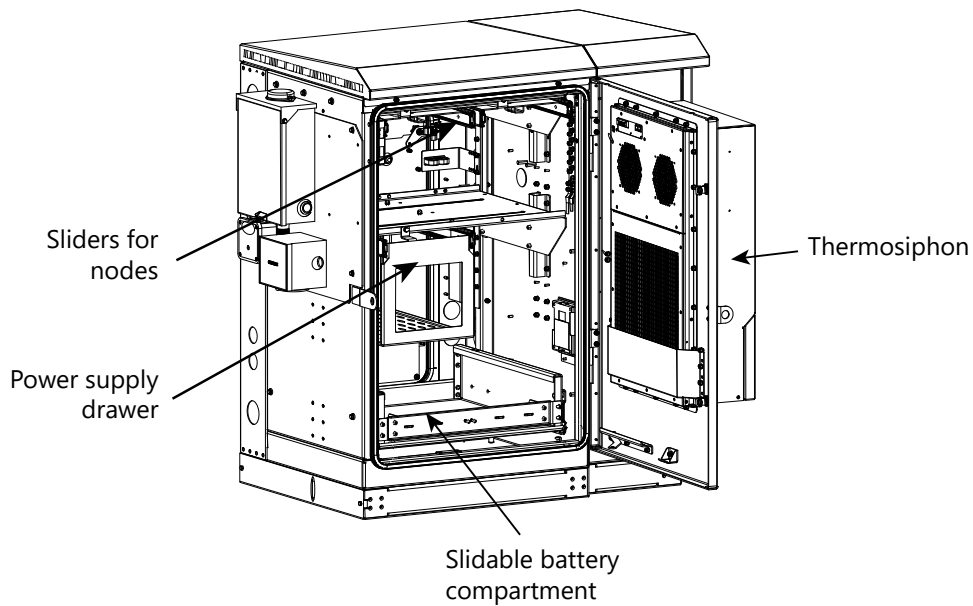

Figure 3: Compartment Views – MSO AIO Cabinet Example
- Optional 7RU or 8RU compartment divider and door baffle - Figure 3
2. Open door with door key, remove the installation kit, and close the door, Figure 3.